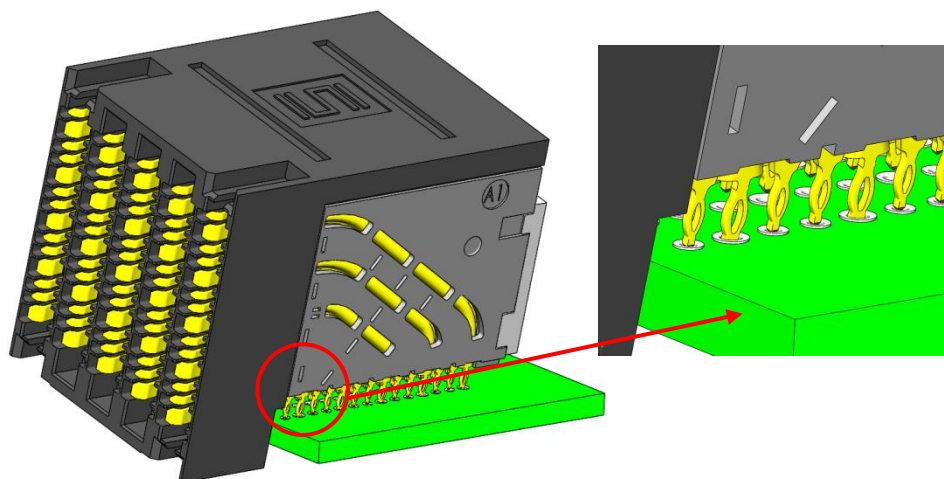

Figure 23: Right Column EONs Being Aligned With PCB Vias
- Begin by holding the connector at a slight angle so that the tips of the outside column press fit tails, left or right, can be inserted into either the first or last column of via holes on the PCB. See figure 23.